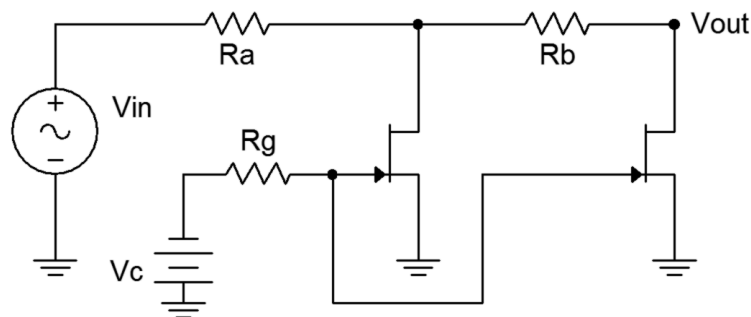

Figure 2
5. Build the circuit of Figure 2 with $R_a = R_b = 4.7 \text{ k}\Omega$ and $R_g = 10 \text{ k}\Omega$. Set V_{in} to 100 mV peak at 1 kHz. Set the control voltage, V_C , to 0 VDC. Measure the signal at V_{out} using the oscilloscope and record the value in Table 2.